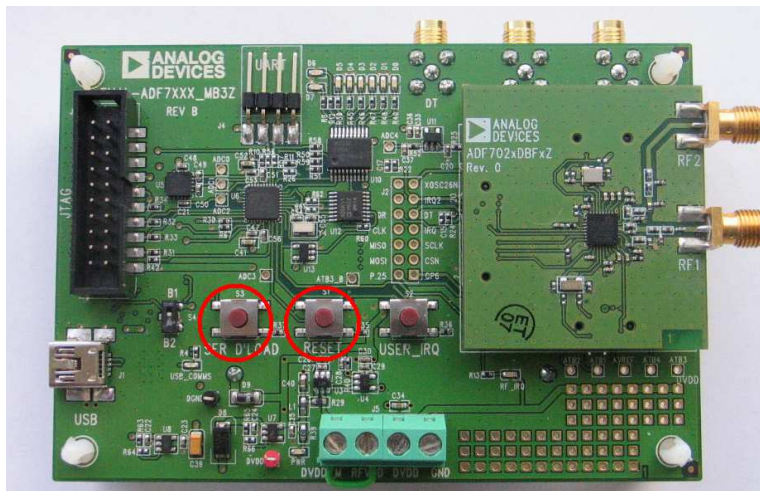

Figure 25
5. “**SER DLOAD**” and “**RESET**” buttons will be referenced and can be found as shown in Figure 25.